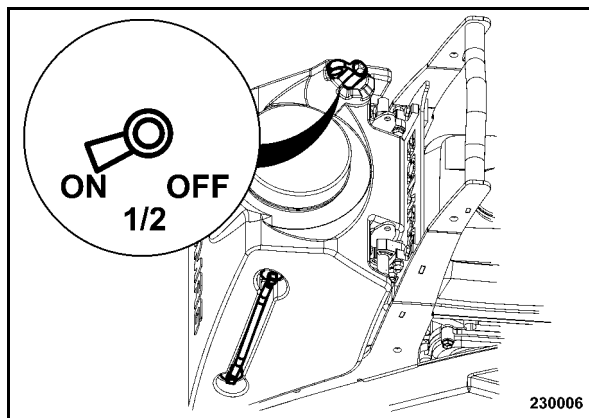

Fig. 21
- Set the lever (Fig. 21) to position "1/2" or "ON". The sprinkling system is switched on.